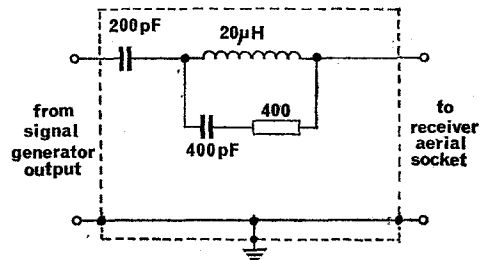

Fig 1. Dummy aerial
6. Output impedance. In order to transfer maximum power from the signal generator to the equipment under test it is essential that their impedances should be matched. This means that R_s and R_L should be equal, or where this is not possible a matching pad (impedance transformer) should be used. Any external impedance which is added to a signal generator to simulate the aerial impedance of a receiver is known as a *dummy aerial*. It ensures that the signal current to the input circuits of the receiver is the same as would appear with the known signal level induced in an ideal aerial. The circuit shown in figure 1 will match a low impedance signal generator output (50 ohms) to the high impedance input of an ordinary domestic broadcast receiver.